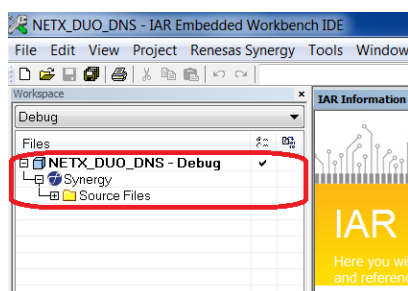

Figure 1.2 Project loaded in IAR EW for Synergy
1. After opening the project, you should see the following project structure from Figure 1.2 in the IAR EW for Synergy IDE.